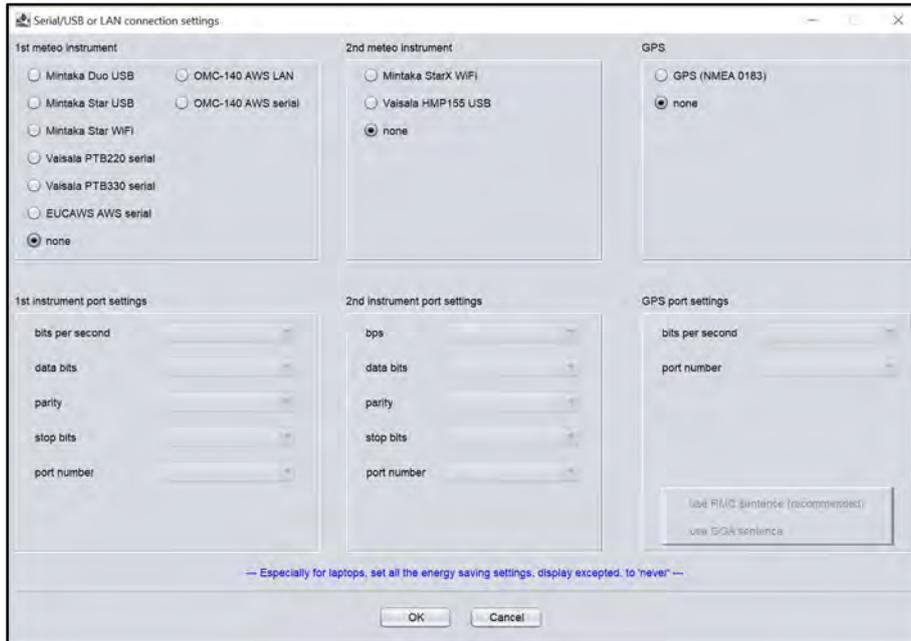

Figure 2: Serial settings window
5. The window shown in **Figure 2** will be displayed.